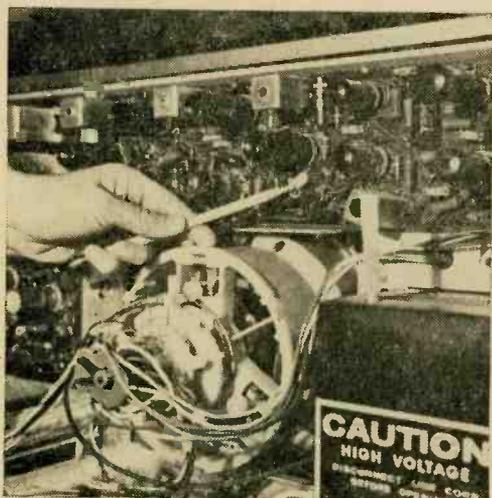
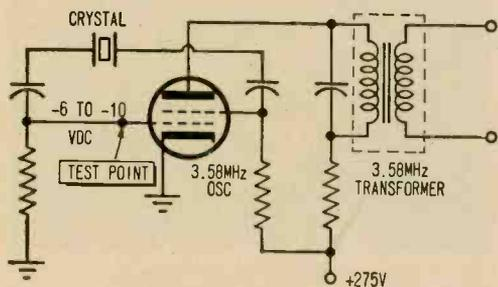

Fig. 6. If tubes don't seem to be causing the problem, try checking the 3.58 MHz crystal.
Fig. 7. Circuit of typical 3.58 MHz oscillator. A voltage check with a VTVM will determine if it's OK.
**Crystal Oscillator.** If tubes don't restore color, you'll need a VTVM to do some further checking. And a good place to start is at the 3.58 MHz oscillator (Fig. 6). Set makers often provide a test point for measuring grid voltage developed by the oscillator during normal operation. Voltage in a typical oscillator (see Fig. 7) is about -6 to -10 VDC.